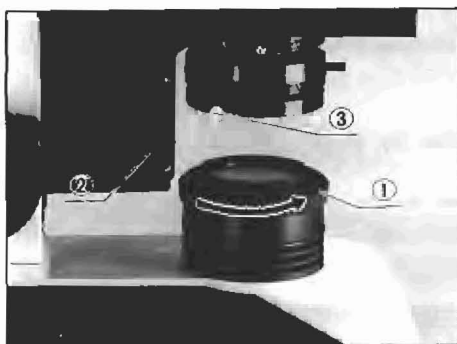

Fig. 19
- 1) Rotate the diaphragm ring (1) counterclockwise to stop down the iris diaphragm to the minimum. (Fig. 19)
- 2) Rotate the condenser height adjustment knob (2) in either direction until the image of the field diaphragm is visible sharply in the field of view. (Fig. 19)
- 3) Bring the image of the field diaphragm into the center of the field by means of the two attachment lens centering screws (3). (Figs. 19, 20)
- 2) Turning the field diaphragm ring ① (Fig. 19) counterclockwise reduces the diaphragm opening, or reverse the ring to increase the opening.